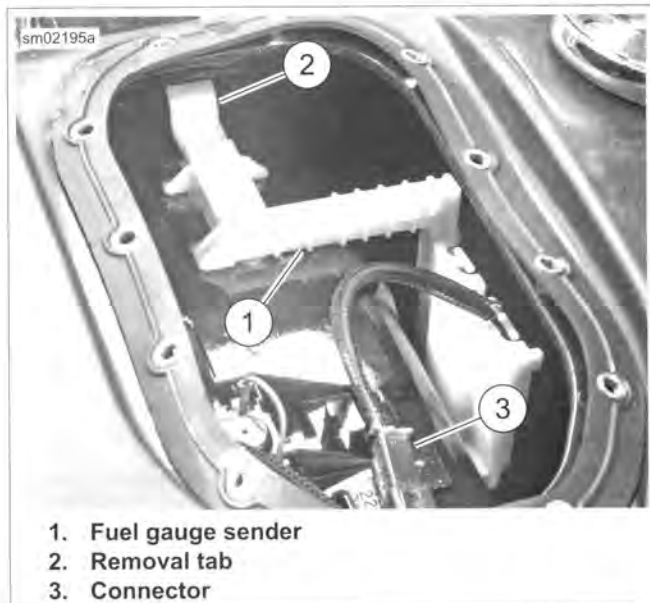

Figure 7-68. Fuel Gauge Sender
11. See Figure 7-68. Pull removal tab (2) toward rear of vehicle to disengage fuel gauge sender (1) from mounting tabs.
- See Figure 7-68. Install fuel gauge sender (1), making sure that removal tab (2) is locked in place.
- Attach connector (3) to wiring harness.